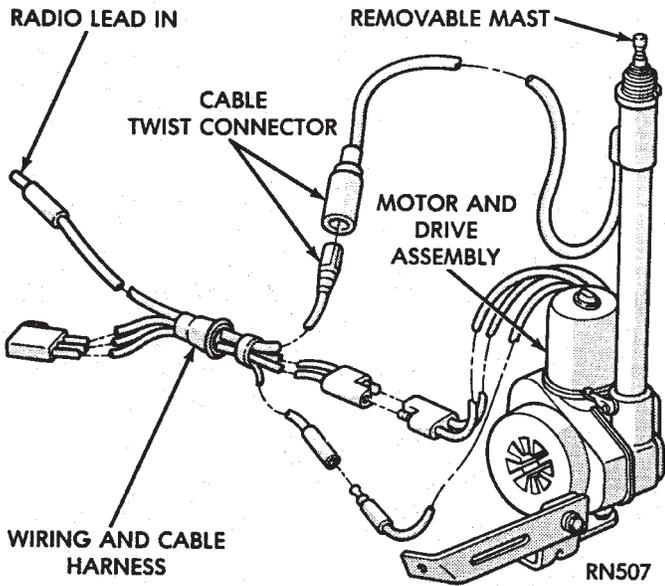

Fig. 16 Power Antenna Assembly
The power operated radio antenna (Fig. 16) is a telescoping type antenna, extended and retracted by a reversible electric motor.
- Disconnect motor leads at the connector (Fig. 16).